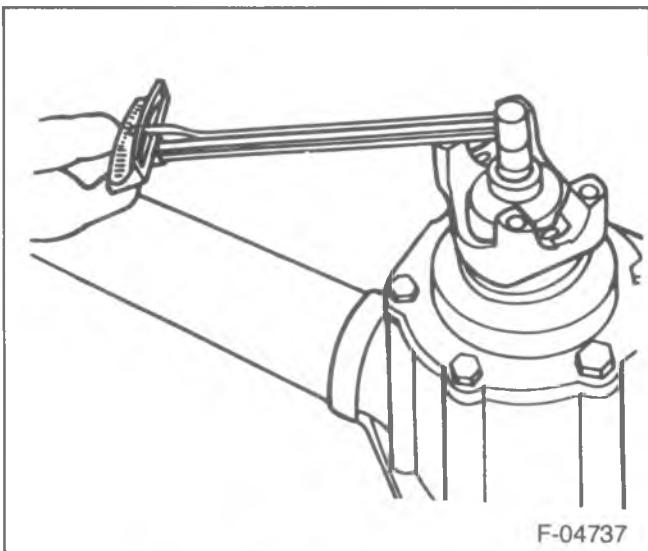

Figure 66—Checking Pinion Preload
- Drive pinion bearing preload (figure 66).